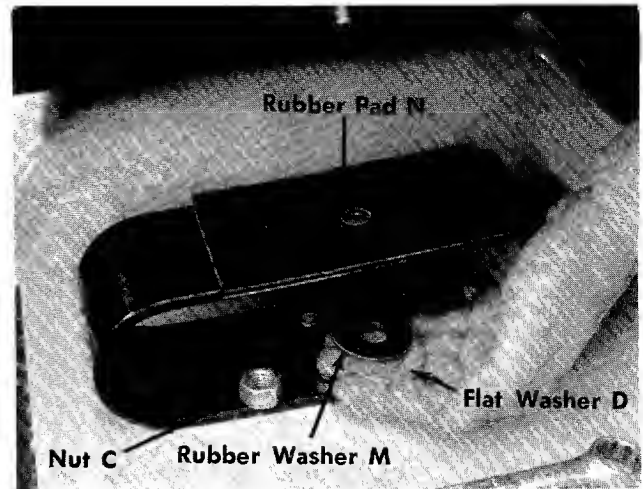

FIGURE 4. SEAT ASSEMBLY
Step 6. Place rubber pad "N" over one of the mounting holes in the seat spring. See figure 4.